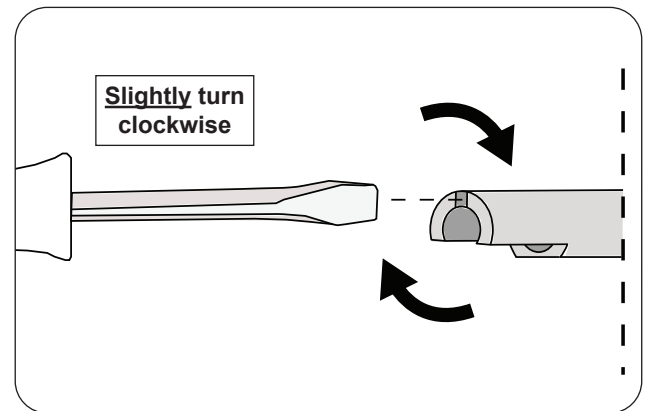

Fig. 53-2 Stem adjustment
2. Insert a flathead screwdriver into the split portion of the stem and GENTLY turn the screwdriver clockwise. Be cautious! Only a slight turn is needed as the stem is flexible. See Fig. 53-2.